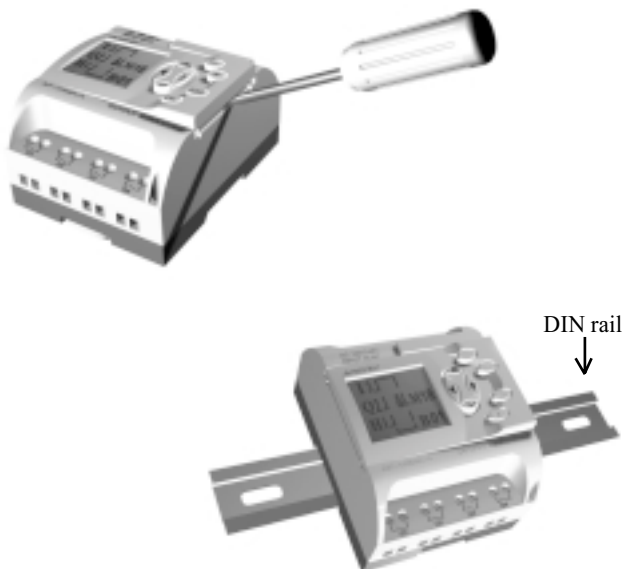

Fig.2.1 Use standard DIN rail for installation of FAB
1. Use standard DIN rail for installation of FAB as shown in Fig. 2.1.